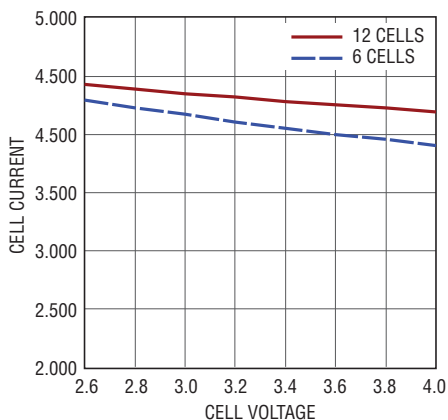
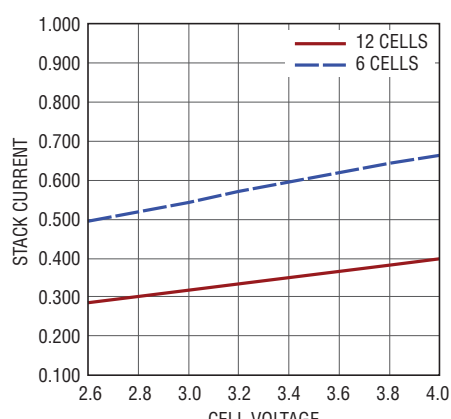

Figure 27. Cell Discharge Current
Figure 30. Stack Charge Current
Figure 27 through Figure 30 are cell and stack currents taken over a range of cell voltages from 2.6V to 4.0V. The R_{TONP} and R_{TONS} resistors were set for 2.6V cell voltage operation. All cells were set to the cell voltage under test.
2. CONTROL PANEL WINDOW – FIGURE 30 (GLOBAL CHANNEL MONITOR TAB)